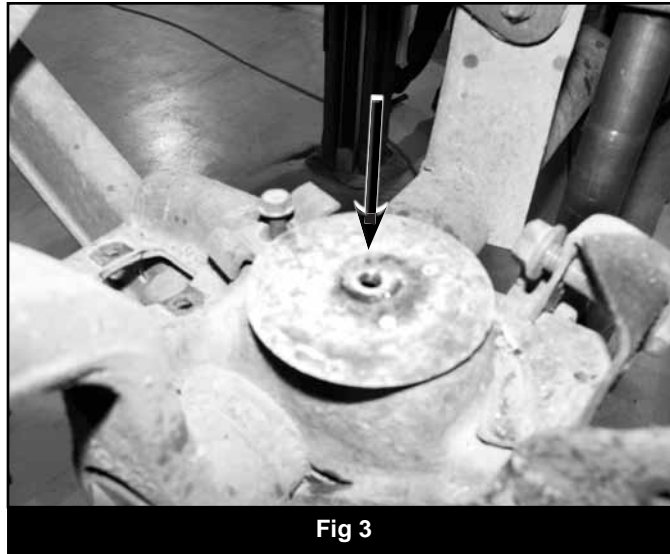

Fig 3
19. Drill lower bump stop holes to 5/16" diameter and use 3/8 self tapping bolt to cut threads for bump stop extension. Remove 3/8" self tapping bolt (#438). (Fig 3)